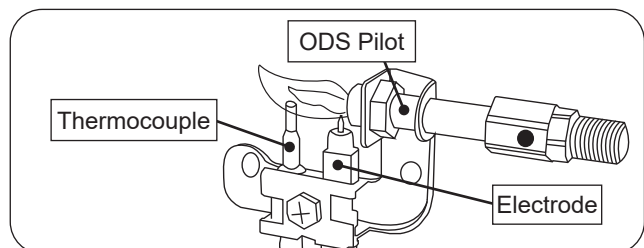

Fig. 24-2 ODS Pilot assembly detail
3. Locate the pilot assembly toward the center of the unit, near the main burner (see Fig. 24-2).